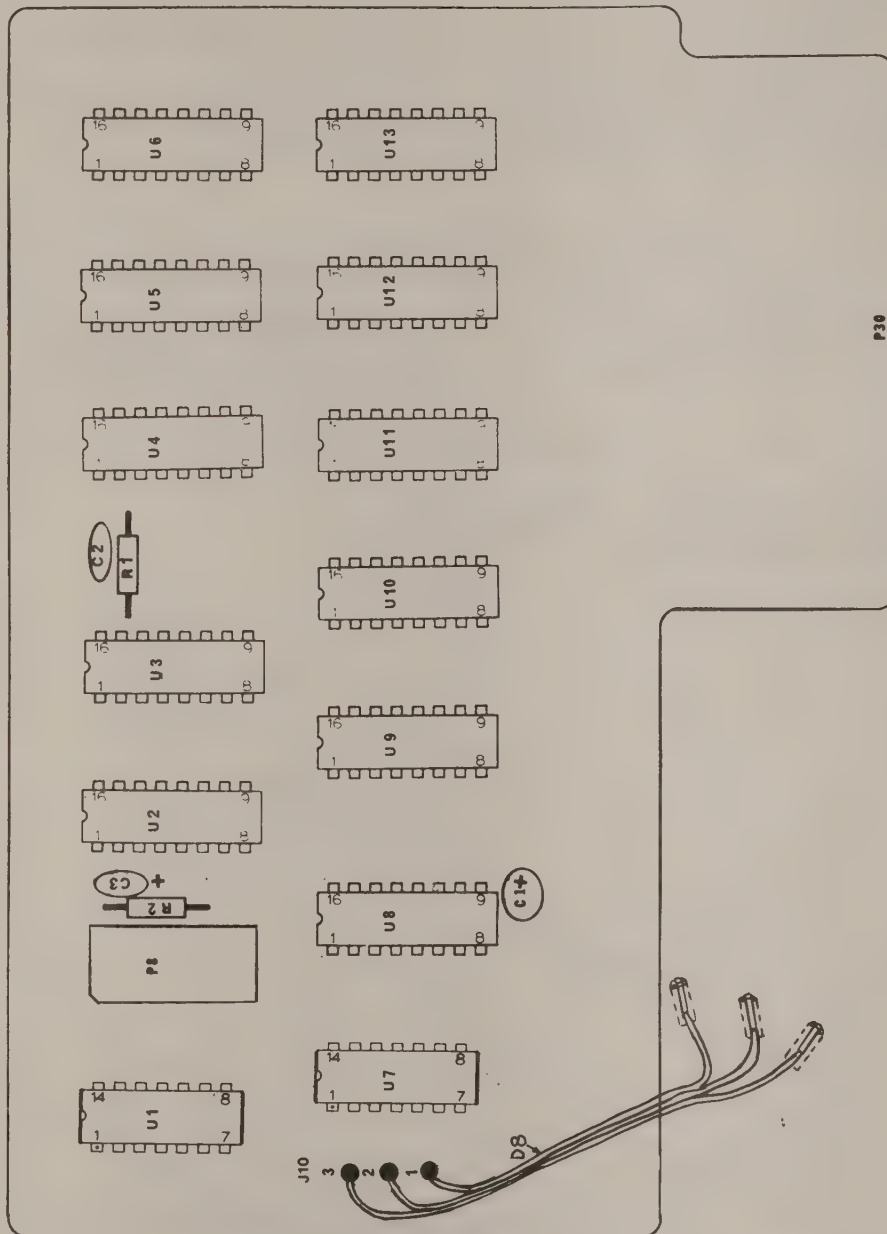

Figure 602-3. Data Output Unit PCB, Assembly
602-11. Loading of the signals at the recording device must be CMOS compatible. (Refer to Figure 602-3 for the particular pin assignments at the DOU output.) The DOU output connector (P30) is numbered/lettered from A to c
602-13. Table 602-1 is a list of replaceable parts for the Data Output Option. The component locations are illustrated in Figure 602-3.
-02	DATA OUTPUT UNIT PCB ASSEMBLY (1920A-1208) Figure 602-3